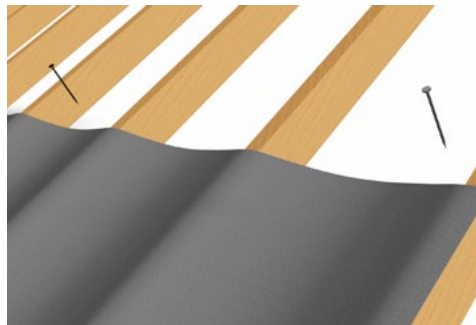

fig 2: Drape and nailing
3. Where unsupported, the Danelaw LR150TT should be installed with a drape over timber rafters or counter battens of not less than 10mm and not greater than 15mm. It should be temporarily secured with the minimum number of clout nails above the upper overlap line at maximum 1200mm horizontal centres (fig. 2). Minimise any gaps in the horizontal laps resulting from different tautness in the underlay courses. This is important to facilitate the effective sealing of the horizontal overlap using the integral tapes. The tile or slate battens should be installed at the appropriate gauge and fixed to provide the main anchorage point for the underlay.